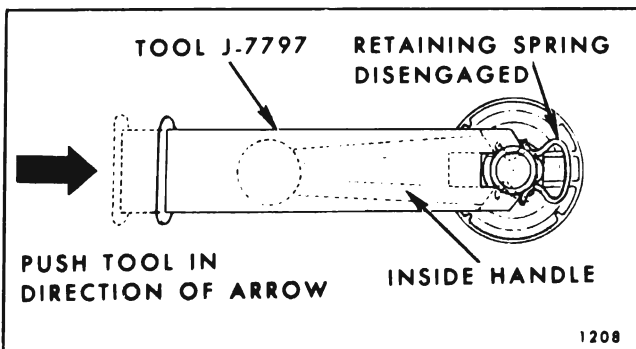

Fig. 14-18—Quarter Window Inside Handle Removal
1. Depress quarter trim assembly sufficiently to permit insertion of tool J-7797 between handle and bearing plate (Fig. 14-18).